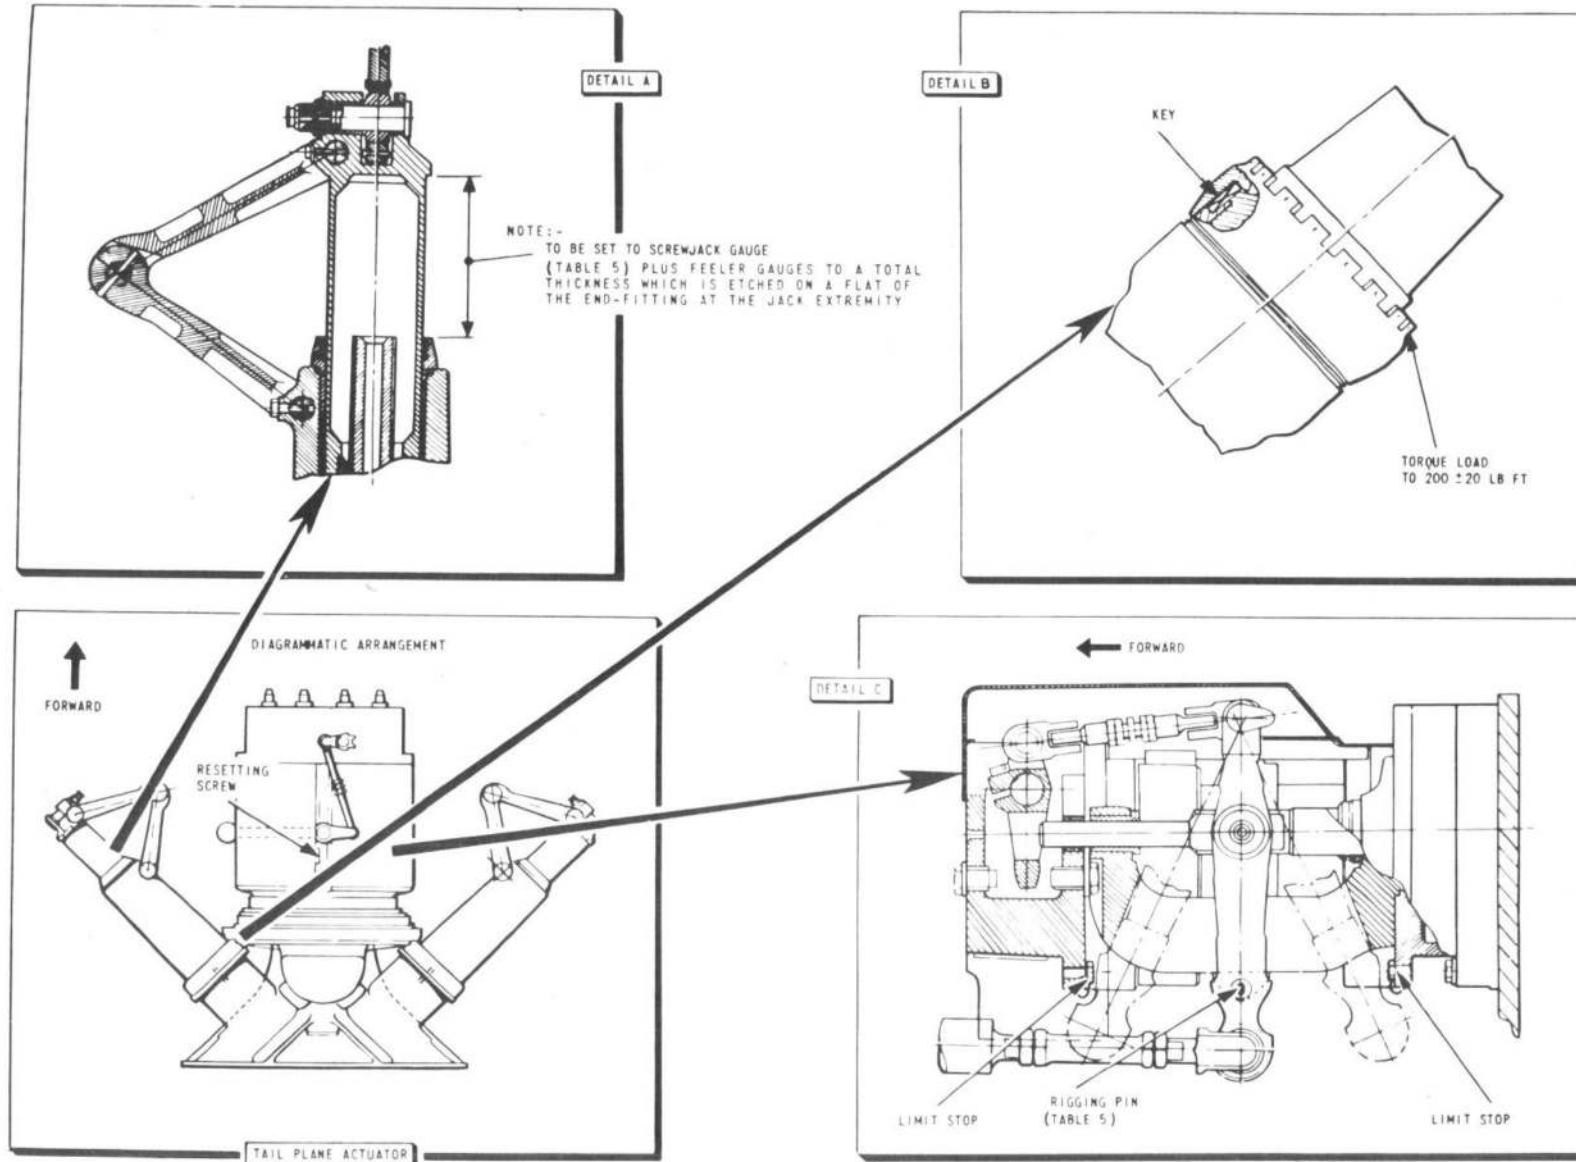

FIG. 5. P.F.C.U. SETTINGS
(9) Remove the starboard screwjack from the second-stage gearbox. Use the torque spanner with an adapter to start the retaining collar.
(10) Support the unit, Fit a 4 B.A. bolt into the tapped hole of each locating dowel (front face of frame 57), and withdraw the dowels. Break the locking wire and remove the two support bolts from frame 57. Remove the locking wire and withdraw the bolts securing the unit to frame 58. Remove the unit by lifting and turning, to guide the port screwjack through the frame. Retain the shim removed from frame 58.
*Assembly (fig.5)*
tion to the dimension given in fig.5, detail A. Check with the setting gauge.
(10) Using the spline key, wind the tail planes until the port screwjack is extended to the dimensions given in fig. 5. detail A.
(11) Before assembling the first-stage gearbox, position the input lever on the resetting screw so that the rigging pin Ref.No.26DK/95459 can be fitted (*detail C*). Apply hydraulic pressure to centre the relay valves or prove that they are already centred.
(12) Install the first-stage gearbox assembly from above, taking care that the hydraulic pipes are not fouled or damaged. Mate the splined shafts, bolt the unit to the frame, and wire-lock the bolt heads.
(13) Connect the hydraulic couplings and refit the fairleads on the debris guard.
(14) Set the control column and the system levers in neutral position (*Table 1, detail 1*).
(15) Connect the control tube to the input lever of the first-stage gearbox